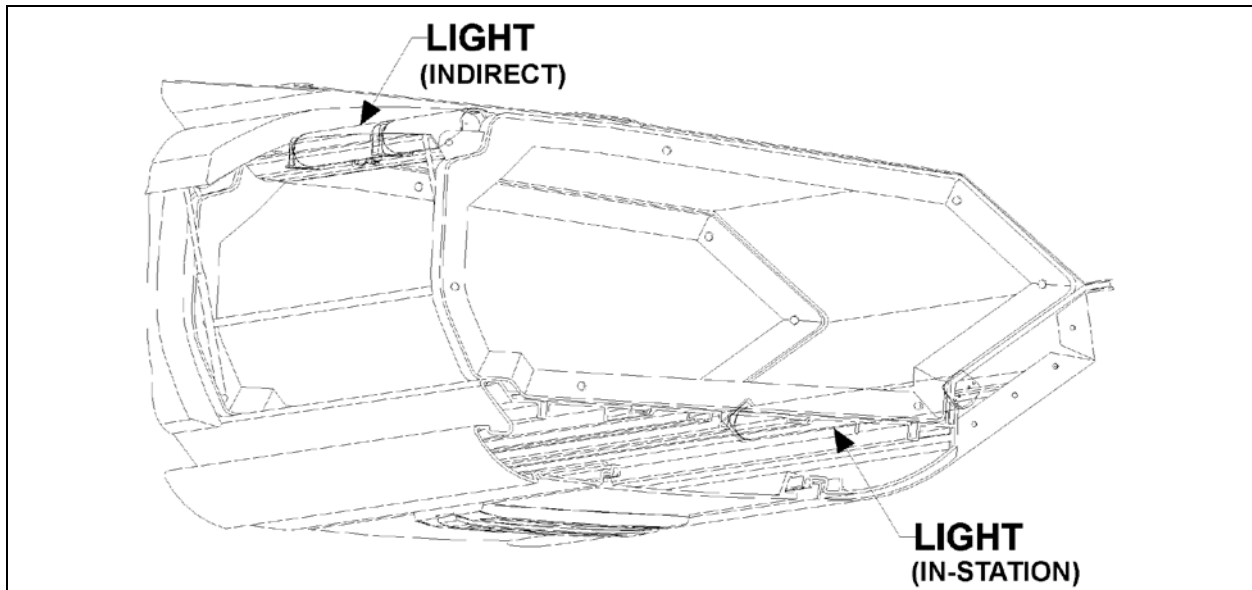

FIGURE 40: PARCEL RACK LIGHTING
4. Lift the hinged cover and replace the two retaining screws (Fig. 40).